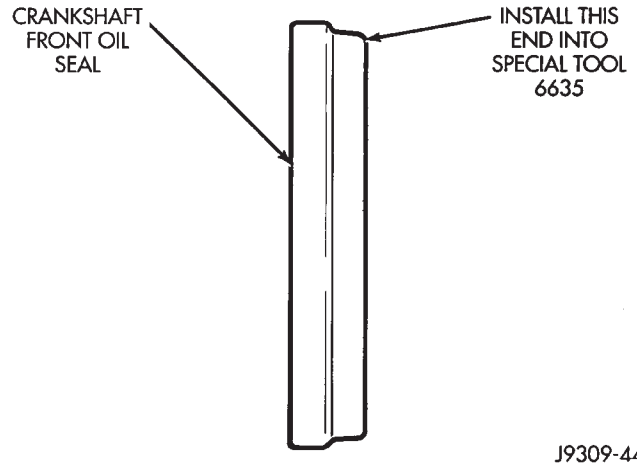

Fig. 41 Placing Oil Seal on Installation Tool 6635
- (1) Disconnect the negative cable from the battery.
- (2) Remove vibration damper.
- (3) If front seal is suspected of leaking, check front oil seal alignment to crankshaft. The seal installation/alignment tool 6635, should fit with minimum interference. If tool does not fit, the cover must be removed and installed properly.
- (4) Place a suitable tool behind the lips of the oil seal to pry the oil seal outward. Be careful not to damage the crankshaft seal bore of cover.
- (5) Place the smaller diameter of the oil seal over Front Oil Seal Installation Tool 6635 (Fig. 41). Seat the oil seal in the groove of the tool.